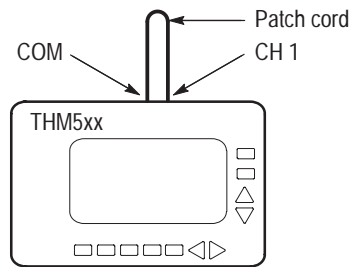

Figure 11: DC offset test setup
4. Use a patch cord to short the THM500 series instrument COM and CH 1 inputs as shown in Figure 11.